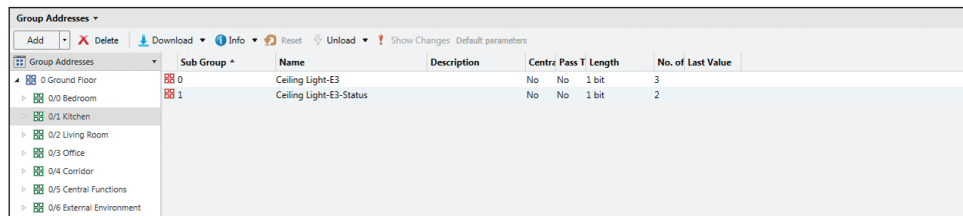

Figure 33. The Group Address window
- Defining the functions of the system and the Group Addresses (Fig. 33). Example: in an office there are two strips of lighting that work independently from one another. It should be possible to turn each light on and off individually, but it should also be possible to switch both lights on and off together, so the actuator needs to be programmed with three different functions. Three Group Addresses are therefore needed (strip light 1 on/off, strip light 2 on/off, and strip lights 1 and 2 on/off)